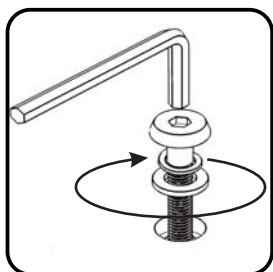

Figure 1
Attach Stretchers (F) and (G) to Back Posts (D) and (E) with Flat Washers, Spring Washers and Head Cap Bolts, tightening the bolts only half way. (See Figure 1)